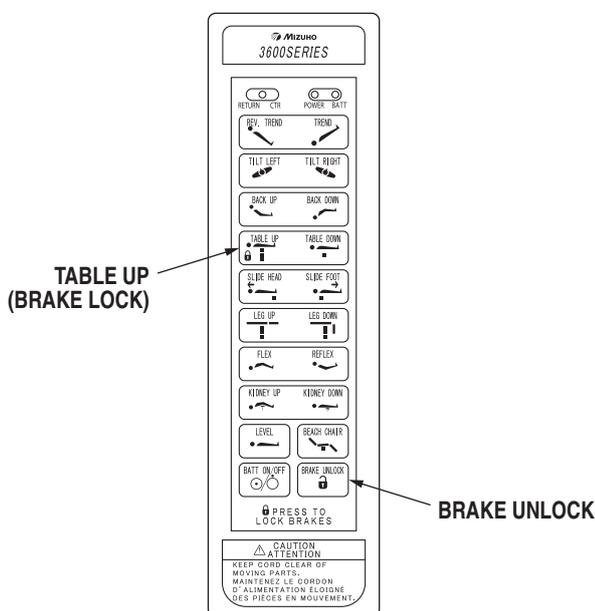

Figure 2-6. Brake System Activation
**a. Floor Lock/Brake System** To activate the brakes without affecting table positioning, press the TABLE UP button. See figure 2-6. The elevation cylinder will not function until the brakes are completely extended.
Press the BRAKE UNLOCK button on the pendant control to release the four self-leveling brake feet in order to move the table. See figure 2-6. The brake delay circuit automatically retracts the brake system. It takes approximately 7-8 seconds to totally release the system.